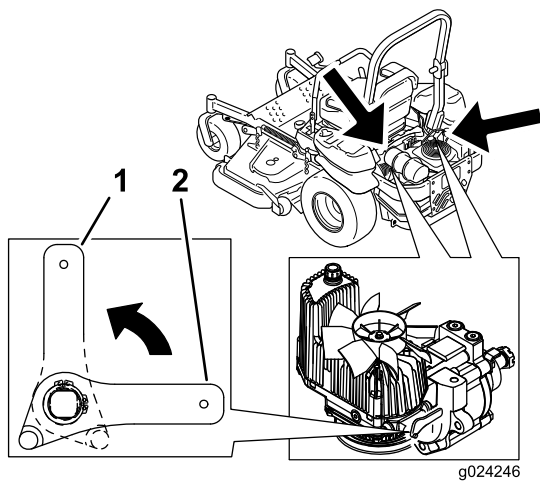

Figure 34
3. Rotate the release-valve levers vertically to push the machine (Figure 34).
5. Rotate the release valve levers horizontally to run the machine (Figure 34).